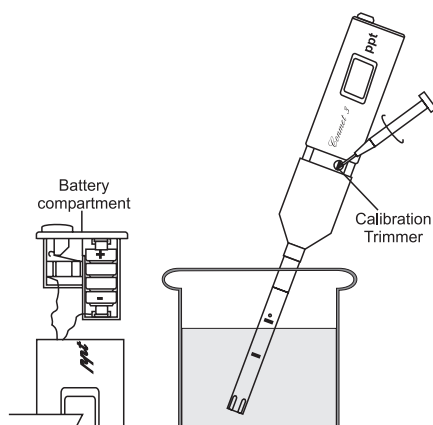

Fig. 3
- If the display fades, replace the batteries. Switch the unit off, pull out the battery compartment and replace the batteries (Fig. 3).